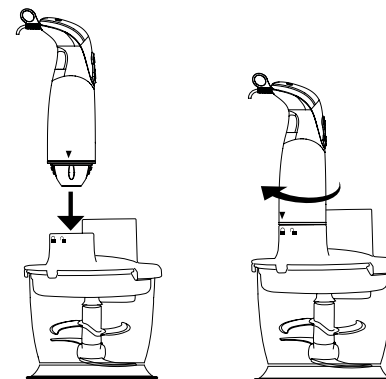

FIG. 3
3. To assemble the motor unit, align the arrow mark on the motor unit with the unlocked symbol (■) on the food processor lid and attach the motor body to the food processor lid. Turn the motor body in the clockwise direction until the arrow mark on the motor unit is aligned with the locked symbol (■) on the lid and the motor unit is securely locked in place as shown in Fig. 3.